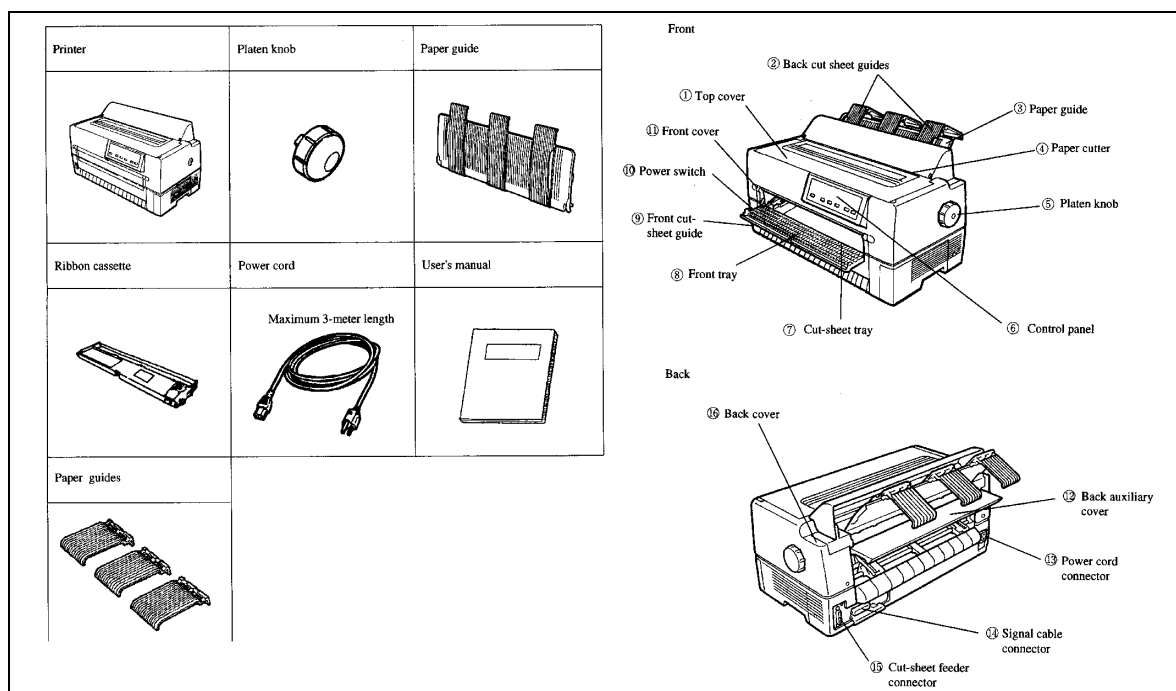

Figure 3-32. Fujitsu Printer Components.
- (1) Open the box and remove the printer and its components.
- (2) Verify that each item has been received (figure 3-32) and check each item for damage.